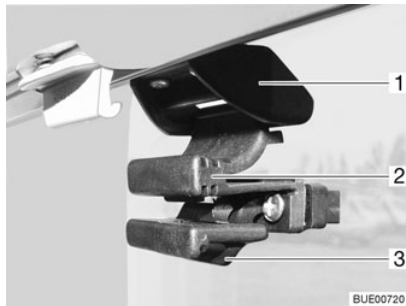

Fig. 11 Window in the conversion door
Opening the window: ■ Press the retainer (Fig. 11,3) back.
■ Press the handle (Fig. 11,2) together and push the window down.
Closing the window: ■ Push the window up until the handle (Fig. 11,2) engages in the lock (Fig. 11,1).